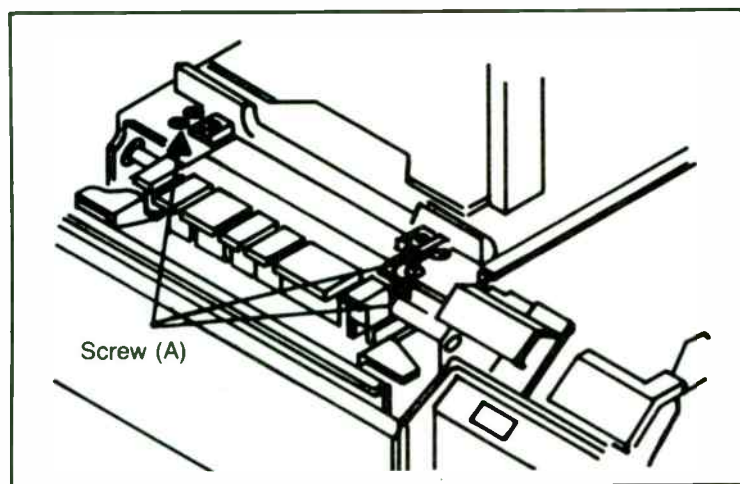

Fig. 10-25. Cassette up holder position adjustment (courtesy of Magnavox).
1—Install the cassette up holder, set the four screws (A) and turn them a few turns only, but do not tighten. Refer to Fig. 10-25.